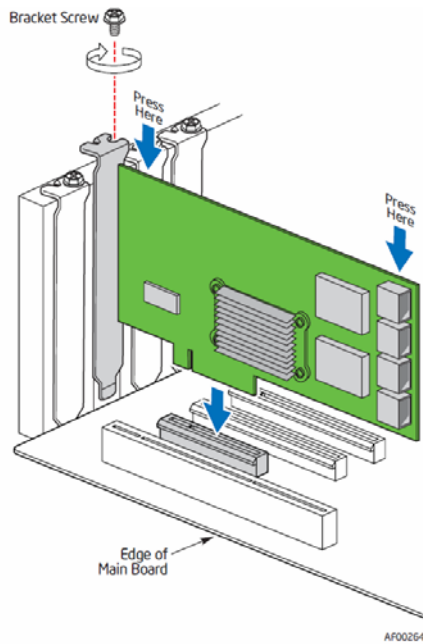

Figure 3. Inserting the Intel® RAID Controller SRCASPH16I into a PCI Express* Slot
4. Press down gently but firmly to ensure that the card is properly seated in the slot, as shown in Figure 3. Secure the bracket to the computer chassis.